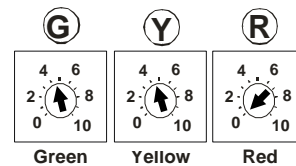

FIGURE 5
1. Start with the base setting; see Figure 5, even if you have a full exhaust system. Adjust and test only *ONE* adjustment pot at a time until you are happy with the result.